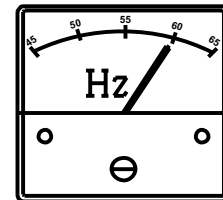

Figure 33. Frequency Meter
7. The generator's frequency meter (Figure 33) should be displaying the 60 cycle output frequency in **HERTZ**.